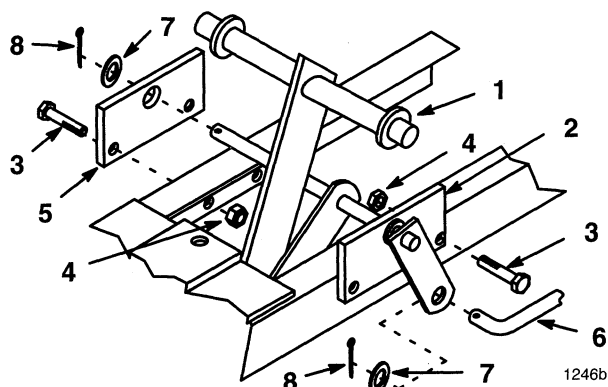

Figure 4
8. Place front lift weldment between frame and attach captured plate to frame with bolts and lock nuts (Fig. 4).
9. Slide remaining plate over shaft and secure to frame with bolts and lock nuts. Secure lift assembly shaft to plate with washer and cotter pin (Fig. 4).
10. Attach lift rod to lift weldment and secure with washer and cotter pin (Fig. 4).